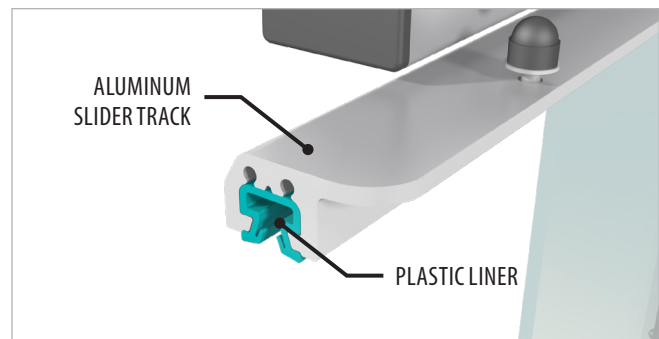

Figure 1 – Slider track locations.
1. Insert the small flat blade screwdriver between the aluminum slider track and plastic liner. Pry the edge of the plastic liner so that it slides out approximately 1/8 in. Reference **Figure 1** for slider track locations.